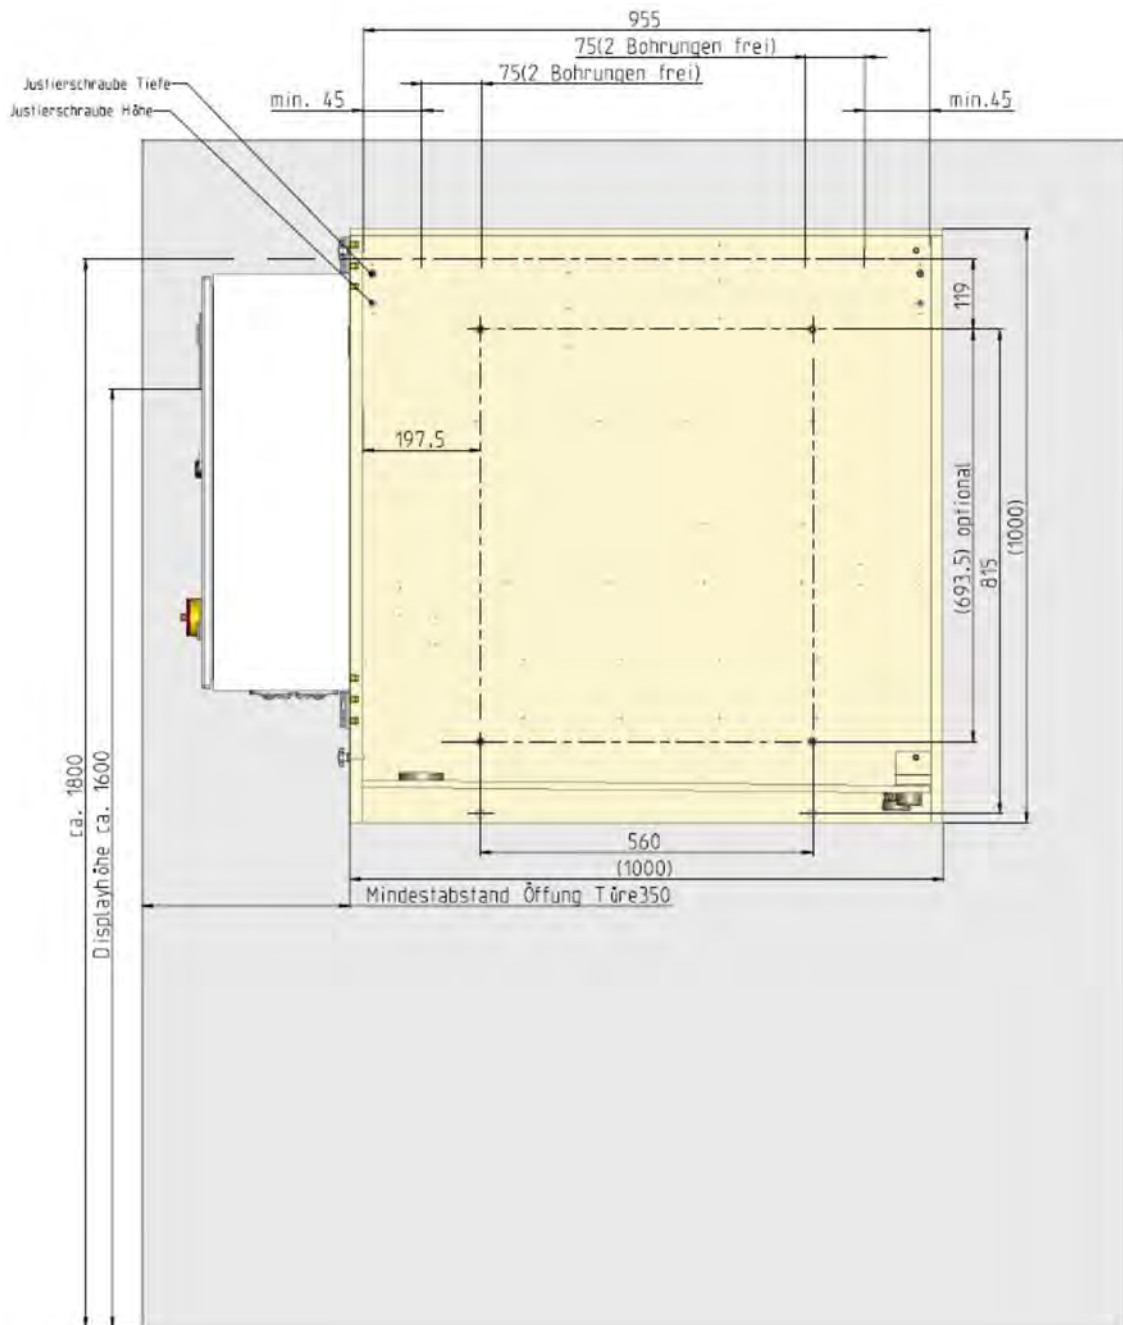

Fig. 7: Assembly diagram
- 2.** ▶ Mark the drill holes on the wall according to diagram ↪ *Chapter 5.3.1 'Assembly diagram' on page 33, Fig. 7.*